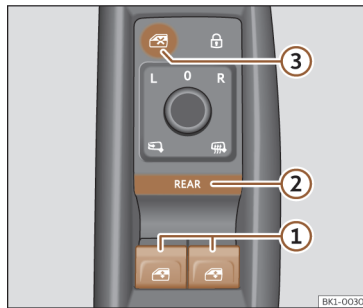

Fig. 94 Detail of the driver door: controls for the windows.
- ① Electric window operation buttons.
- ② **REAR** button for activating the electric window operation and comfort opening and closing.
- ③ Button to deactivate the electric window operation buttons on the rear doors.
By default, the electric windows on the front doors can be operated with the buttons >>> **Fig. 94 ①**.
REAR Briefly press button >>> **Fig. 94 ②** to activate the operation of the rear door electric windows. When the operation of the rear door electric windows is activated, the button's light is on.
Press the button >>> **Fig. 94 ③** to deactivate the electric window buttons located on the rear doors. When these buttons are deactivated the button light turns out.